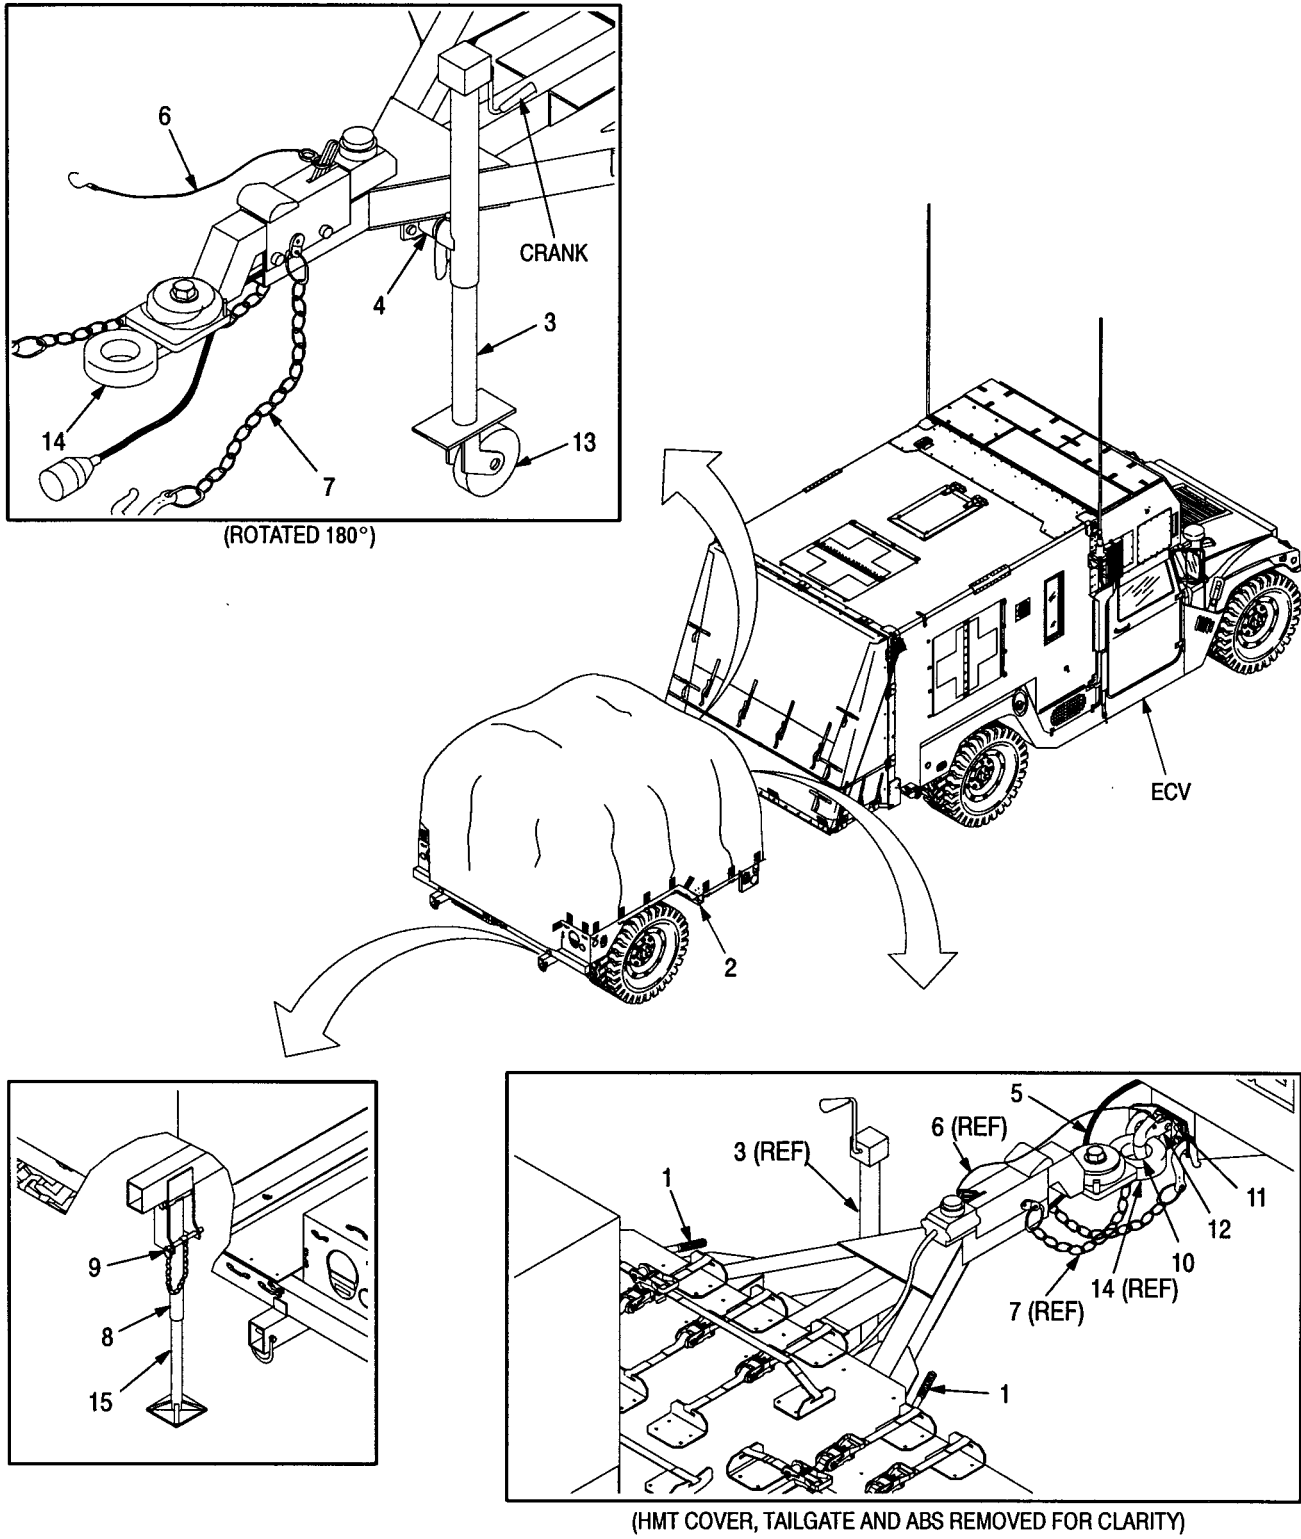

Figure 2-4. HMT Disconnection and Setup
- (1) Select CBPS site on level, dry ground in clear area approximately 50 feet by 100 feet with at least 15 feet of overhead clearance.
- (2) If possible, CBPS should be set up with the ECV pointing into the wind.
- (3) Determine parking area for ECV. Park HMT 4 to 6 feet from driver side of ECV with wheels of HMT in line with front wheel of ECV.
- (4) Apply parking brakes (1, figure 2-4) on HMT (2).
- (5) Lower front support leg (3) and lock in place with pin (4). Disconnect light cable (5), breakaway brake chain (6) and safety chains (7) from ECV.